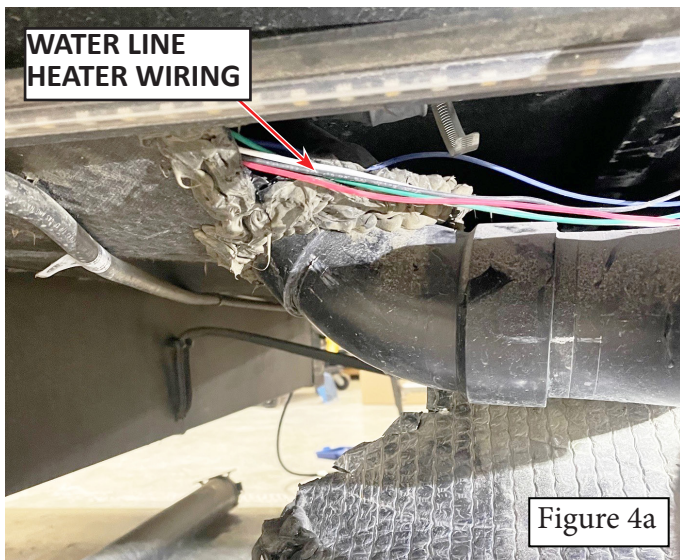
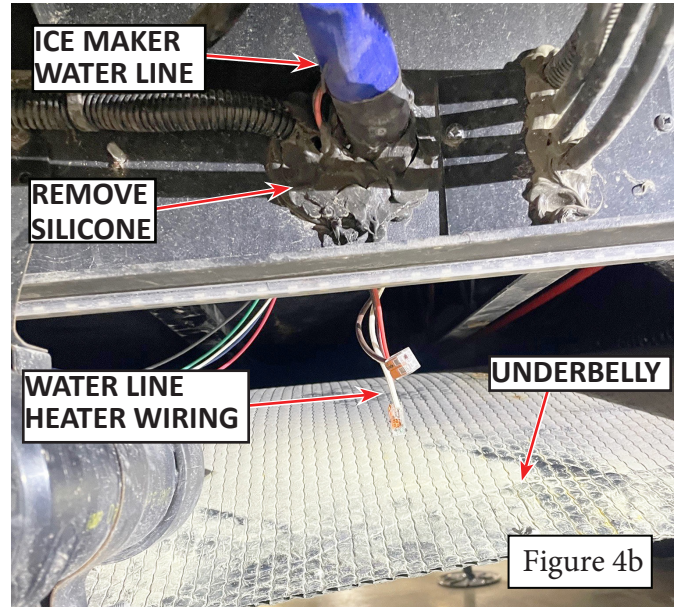

Figure 4a
Figure 4b
5. Pull a section of underbelly down to expose the holding tanks, water lines and ice maker water line heater wiring (Figure 4a, Figure 4b and Figure 4c).
6. Carefully remove the silicone where the water line and wiring pass through the frame rail (Figure 4b).
19. Use black silicone (part #101006) to seal the water line at the openings in the frame rail and slide out floor (Page 4, Figure 4b and Page 5, Figure 7).